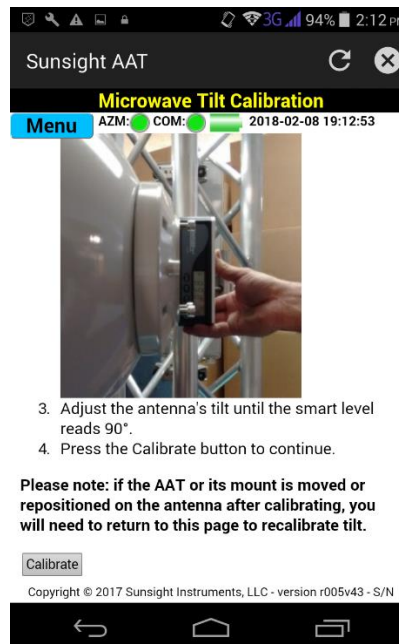

Figure 15
- 13) Place the included digital level on the flat frame of the antenna (typically near the radio mount in the back/center of the antenna) and adjust the antenna so that the level indicates 90° (this will equal 0° tilt (elevation angle)). See Figure 15
- 11) Place the included digital level on the flat frame of the antenna (typically near the radio mount in the back/center of the antenna) and adjust the antenna so that the level indicates 90° (this will equal 0° tilt (elevation angle)). *See Figure 15*